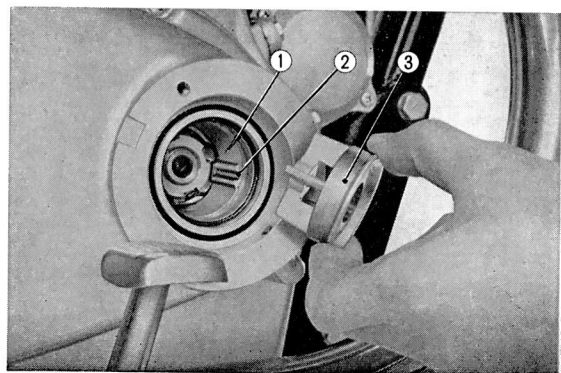

Fig. 6.17 Oil filter rotor cap installation
- b. Remove the circlip and disassemble the oil filter cap ③ from the oil filter rotor ②.
- c. Wash the oil filter rotor cap ③ and the oil filter rotor ① internally in solvent or gasoline.
- (1) A little oil will come out when the oil filter cover is removed.
- (2) When reinstalling the rotor cap, the rotor cap vane should be matched to the groove on the inside wall of the rotor. (Fig. 6.17)
- (3) Make sure that the spring loaded oil guide metal is perfectly clean and free in the oil filter cover.